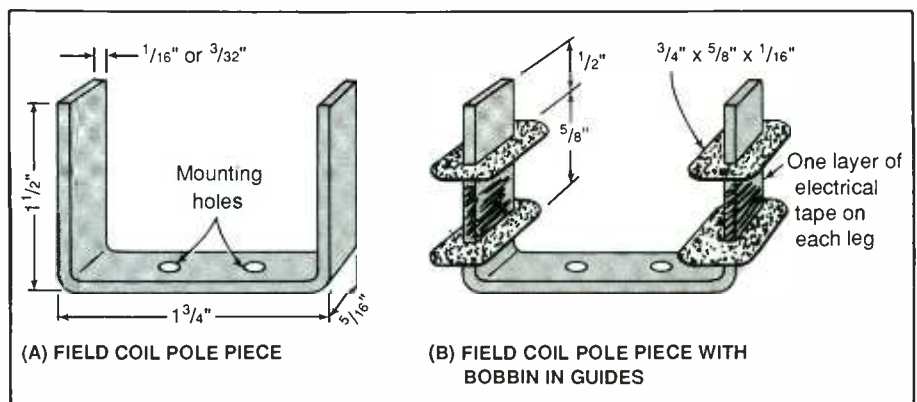

Fig. 5. Machining details for field-coil piece (A) and optional bobbin guides (B).
Meanwhile, prepare the pole pieces, as detailed in Fig. 5. For this, you must fabricate two paddle-shaped pieces of  $\frac{1}{32}$ -inch-thick mild steel as shown in detail (A). Once you have cut to size the steel pieces, drill a